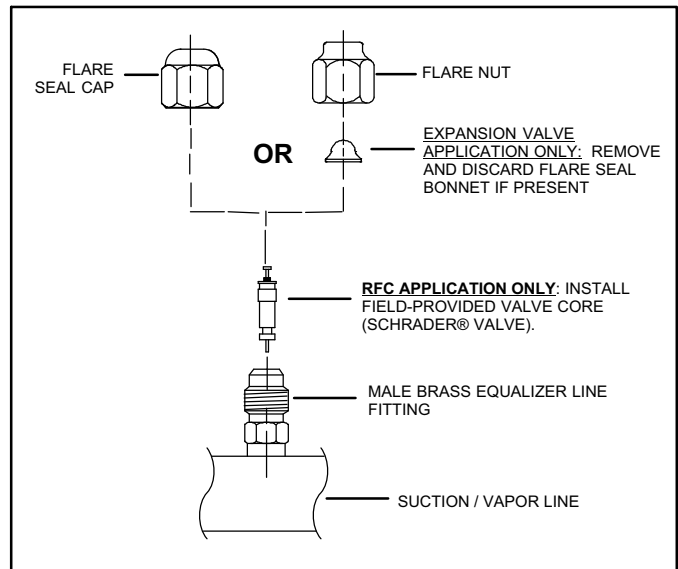

Figure 6. Male Equalizer Line Fitting Modifications
1. Expansion Valve Applications: Remove the copper flare seat bonnet if present from the male equalizer line fitting (see figure 6).
When removing the flare nut, ensure that the copper flare seal bonnet is removed as illustrated in figure 6.